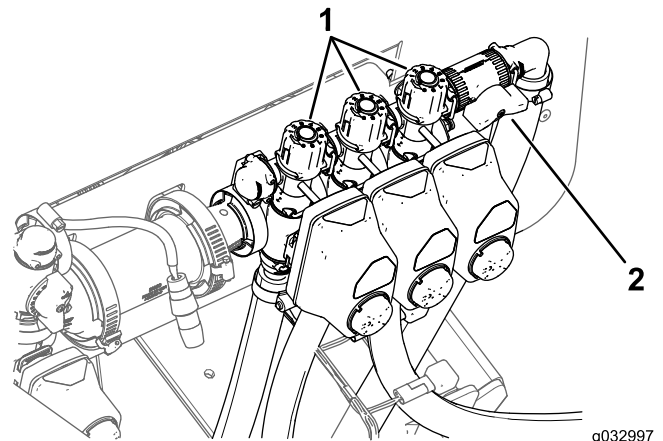

Figure 129
9. Turn off the left boom and adjust the boom-bypass knob (Figure 129) until the pressure is at the previous level.
11. Adjust the right boom-bypass knob (Figure 129) until the pressure is at the previous level.
13. Adjust the center boom-bypass knob (Figure 129) until the pressure is at the previous level.